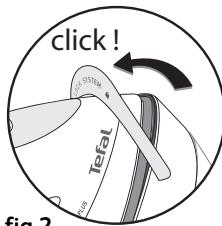

fig.2
- Locking – **fig.2**.
- place the iron on the iron rest of the generator and raise the retaining hoop over the iron until it locks into place (audible click) – **fig.2**.